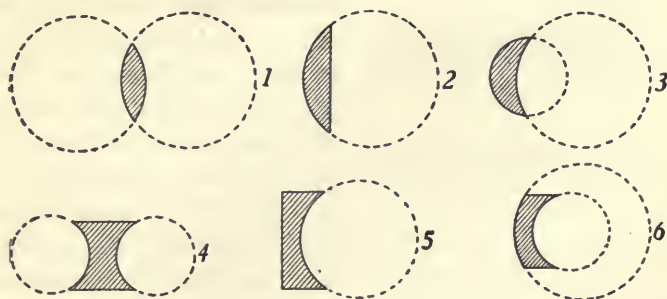

FIG. 377.—Forms of Lenses. 1. double convex; 2. plano convex; 3. concavo convex; 4. double concave; 5. plano concave; 6. convexo concave.
There are two classes of lenses: those thick in the middle are called *convex*, while those thick at the edges are *concave*. The mode of constructing the six forms of spherical lenses is shown in Fig. 377. These are named as follows: (1) double convex, (2) plano convex, (3) concavo-convex, (4) double concave, (5) plano concave, (6) convexo-concave.